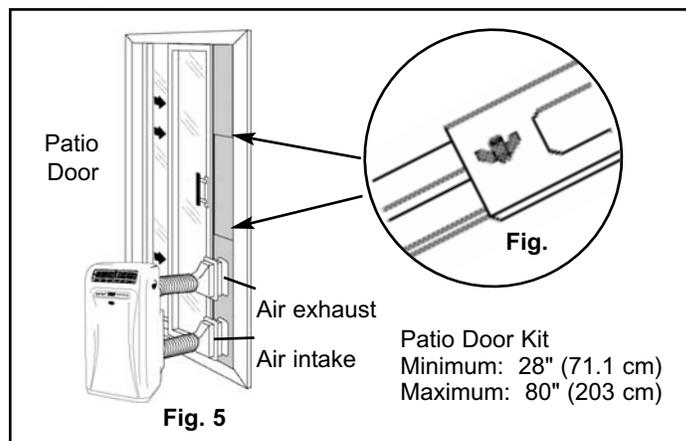

Fig. 5
**Please Note:** In a vertical application, the exhaust hose **MUST** be positioned above the intake hose in the window slider. See Fig 5. This will avoid having the exhaust heat go through the intake and back into the unit.